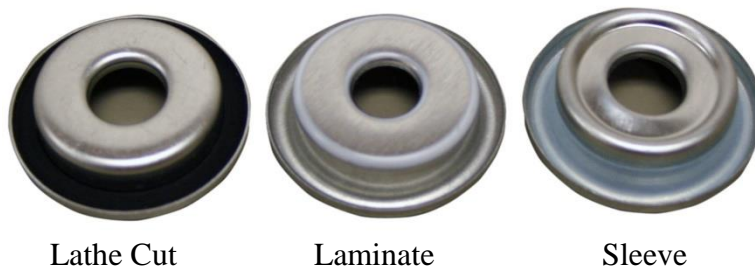

Figure 7: Mounting Cup Gasket styles
b. Cup Gasket: There are three (3) common methods used by valve manufactures to aid in obtaining a leak proof seal between the valve and container. These methods are:
1. Lathe Cut Gasket: A rubber gasket cut from a tube of rubber dimensioned to fit inside the cup curl (See Figure 7).
2. Laminate Gasket: A plastic film glued to the flat metal tinplate by the tinplate manufacturer. When the cup is formed the plastic side becomes the side of the mounting cup that attaches to the can (See Figure 7).
3. Sleeve Gasket: This is a formed plastic gasket that fits inside the cup curl and extends up the side of the 1-inch (25.4mm) diameter (See Figure 7).